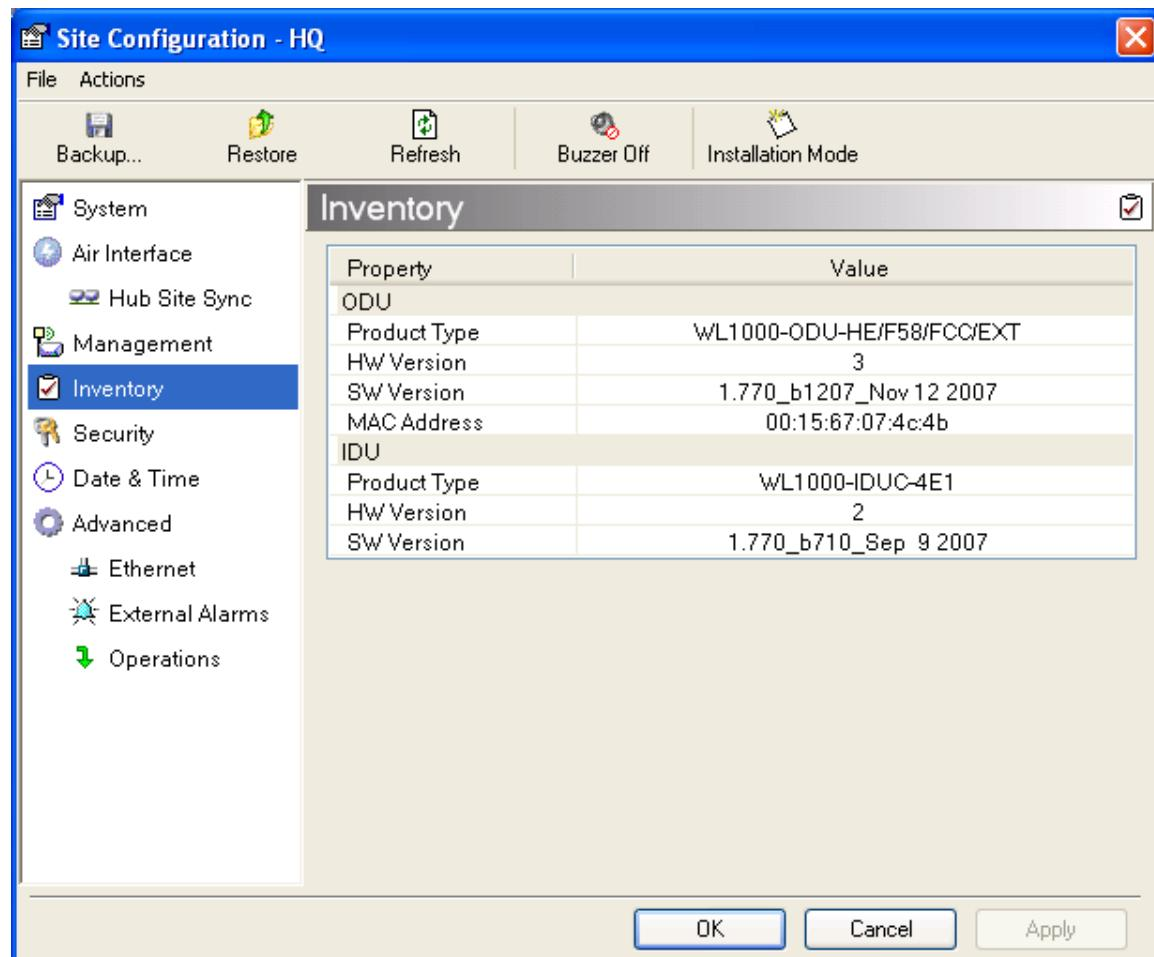

Figure 5-22: Inventory Screen
3. Select Inventory (*Figure 5-22*).